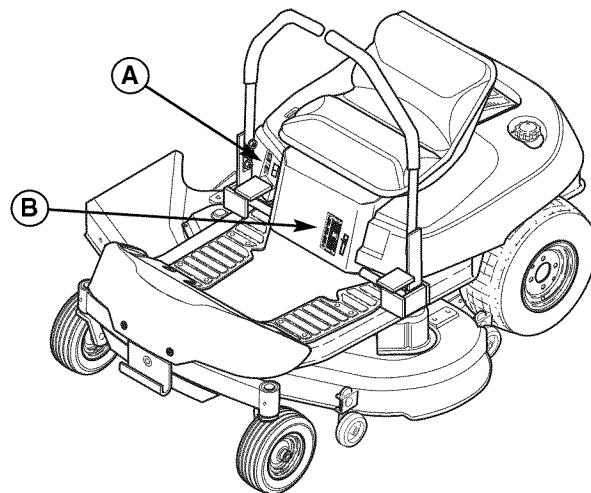

Figure 35. Cutting Height Adjustment
To increase the mower cutting height (raise the mower deck), press the top of the mower cutting height switch (A, Figure 35). To decrease mower cutting height (lower the mower deck), press the bottom of the switch. Mower cutting height range is 3-3/4" to 1-1/2" (9,5-3,8 cm). The cutting height gauge indicates the position of the mower deck. The cutting height gauge (B) is located on the front of the rider, just behind the driver's left leg.